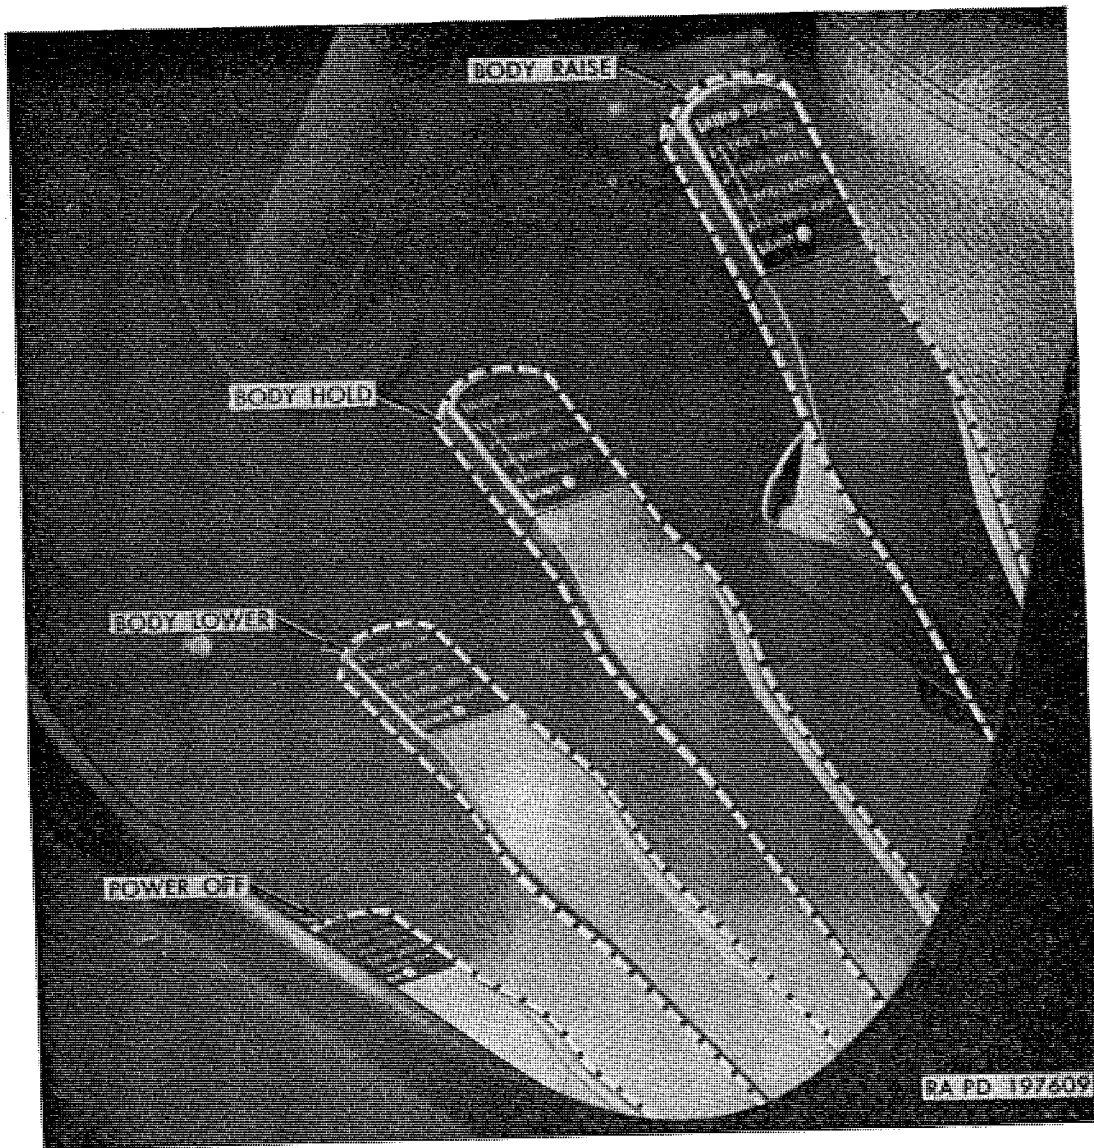

Figure 45. Dump body power-take-off lever operating positions.
b. *Power-take-off lever.* The power-take-off lever, which is positioned to operate hoist pump, is located to right of driver near floor when winch is not used, or to left of driver when winch is used. The lever is also interconnected with hydraulic hoist control box to control the raising, lowering, and holding of the dump body. The lever has four operating positions as indicated on instruction plate, on lever handle (fig. 45), and on dump body instruction plate (fig. 44) mounted on instrument board.
b. Hoist Operation with Vehicle Stationary (fig. 45).